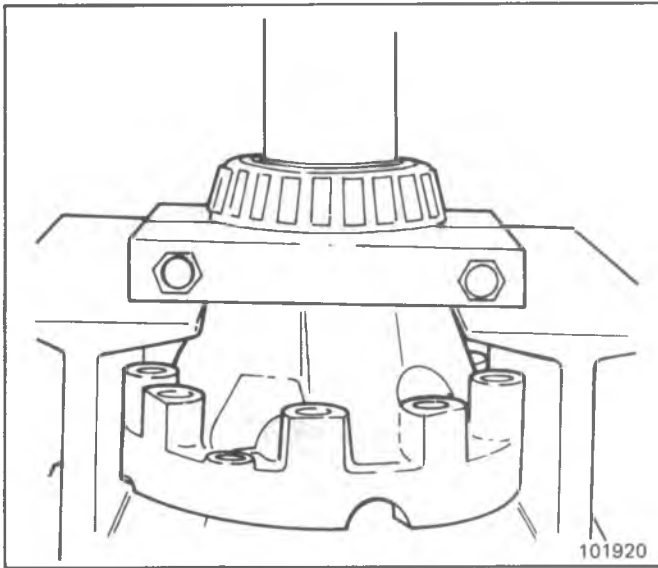

Fig. 4B5-10 -- Removing Differential Bearing
4. Remove bolts holding case halves together, as shown in figure 4B3-3.